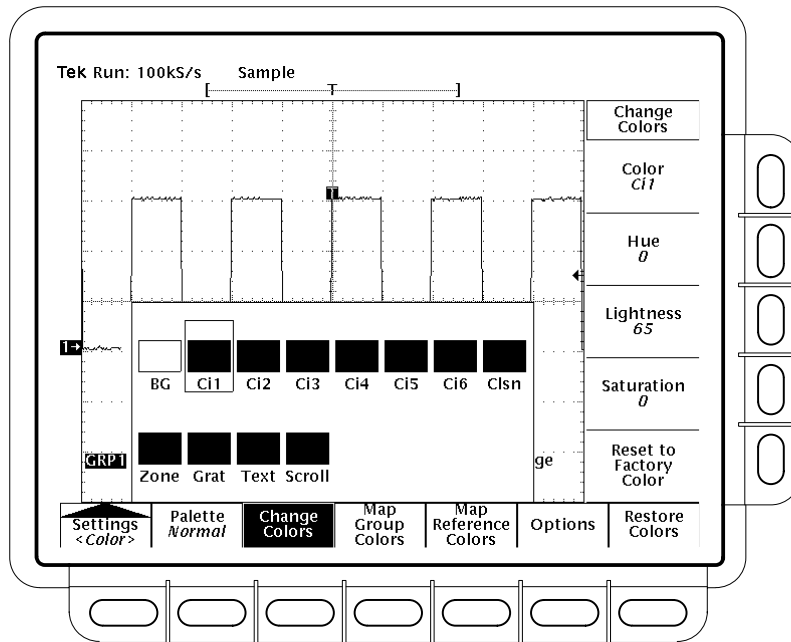

Figure 3-21: Display Menu — Change Colors
1. Select the main menu **Change Colors** item. (See Figure 3-21.)